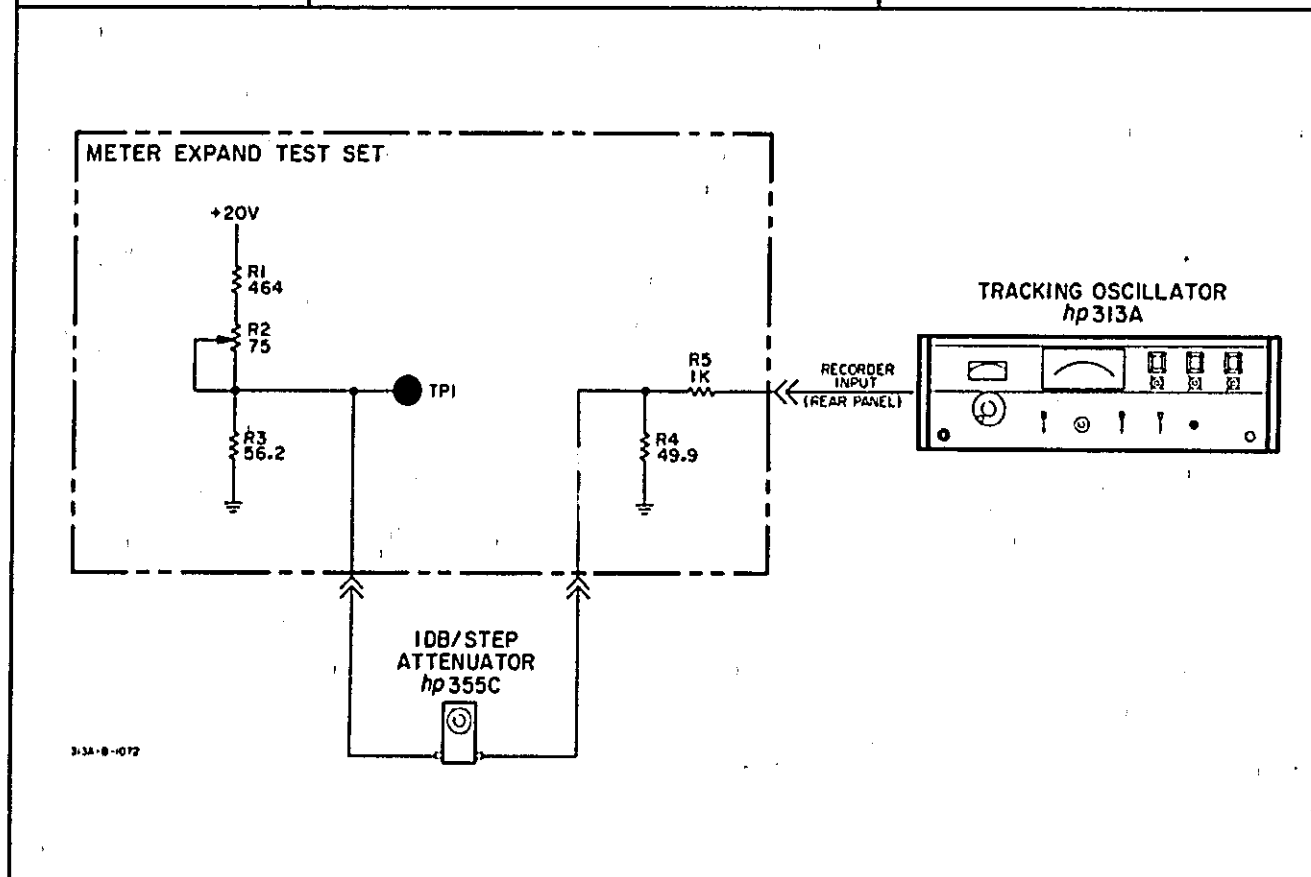

Figure 5-1. Meter Expand and Tracking Test Setup
- a. Connect the 313A, Meter Expand Test Set and the 1 dB/step substitution attenuator as shown in Figure 5-1.